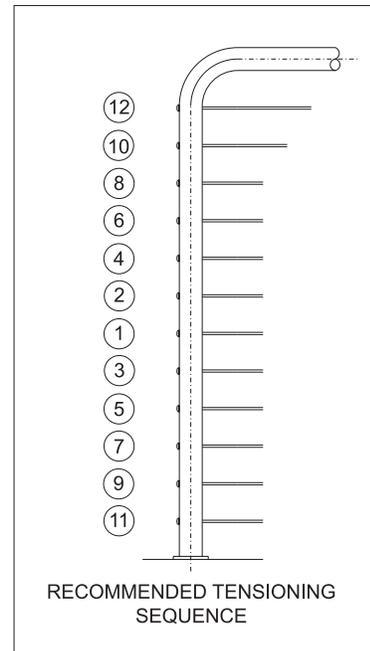

Figure 11
- Tension all cables in sequence, beginning with the center cables, moving up and down toward the top and bottom. (Figure 11) As you tension each cable, give it a sharp pull downward mid-span to help set the wedges, then re-tension as necessary in the same sequence.